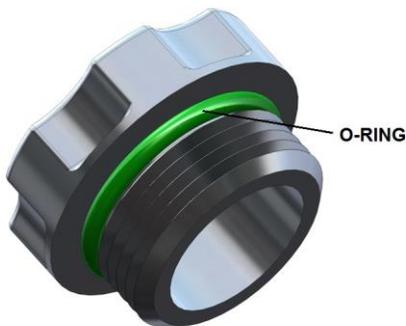

Figure 6
**NOTE:** Oiling the billet fill cap's o-ring (see Figure 6) will ease the cap removal/reinstallation process and is recommended.